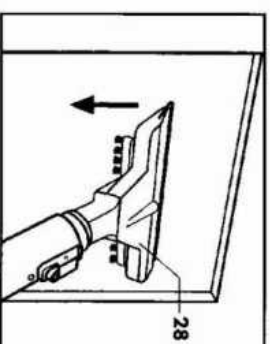

Fig. 17
- Press the rubber blade onto the surface and vacuum any water on the surface by moving the tool vertically from top to bottom (Fig. 17).